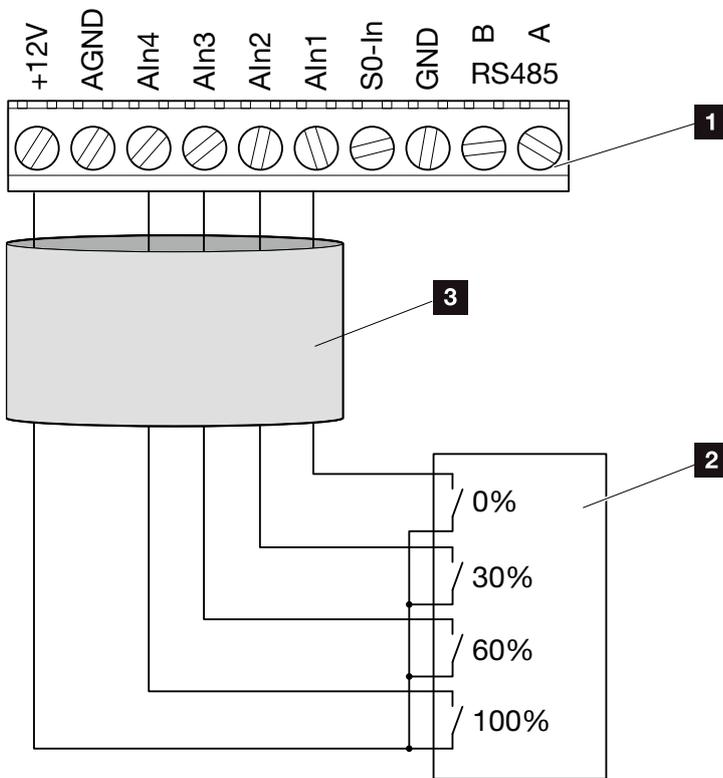

Fig. 59: Connection of ripple control receiver
3. Connect the ripple control receiver to the master inverter  **Fig. 58 It. 1** on the analogue interface terminal (10-pin).  **Fig. 59**